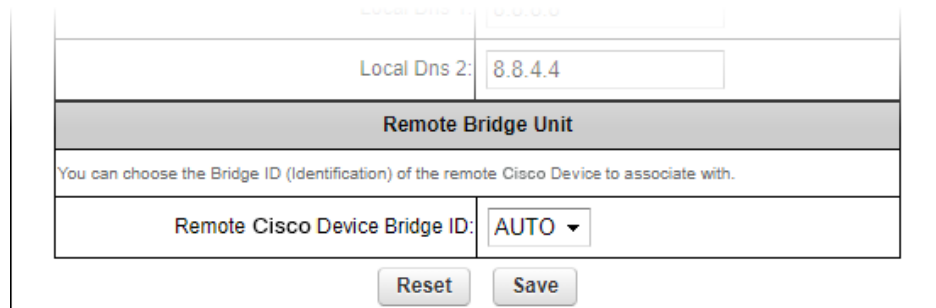

Figure 22. General Mode window (Remote Bridge Unit section)
1. Click the **Remote [Unit model] Bridge ID:** drop-down (Figure 22 \(page 56\)).